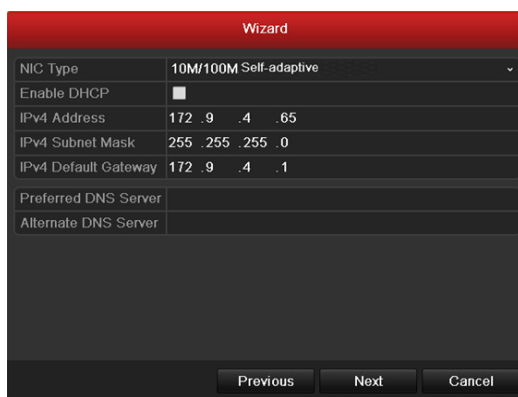

Figure 2.5 Network Configuration
- Click **Next** button which takes you back to the **Network** Setup Wizard window, as shown in Figure 2.5. Set the network parameters, including the NIC type, IPv4 address, IPv4 subnet mask, default gateway, etc. You can enable the DHCP to automatically obtain an IP address and other network settings from that server.